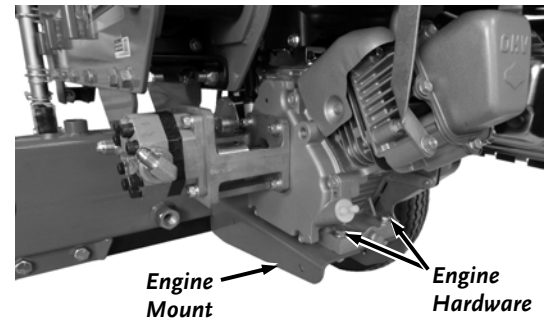

Figure 11
16. Position the Engine onto the Bracket and align the Engine Base holes with the slots of the Bracket (**Figure 11**).